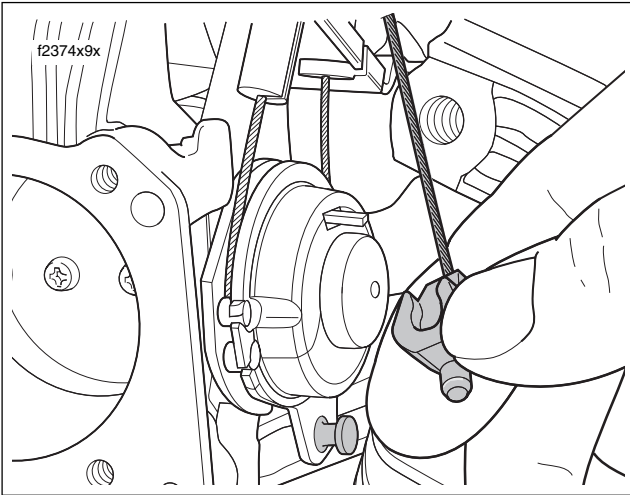

Figure 9-24. Remove End Fitting From Wheel Pin
- On cruise control equipped models, remove E-clip from sleeve at end of cruise cable housing. Using slot, remove cable housing from cable guide in throttle cable bracket. Push the plastic end fitting on the cruise cable to the outboard side to release from wheel pin. See Figure 9-24.